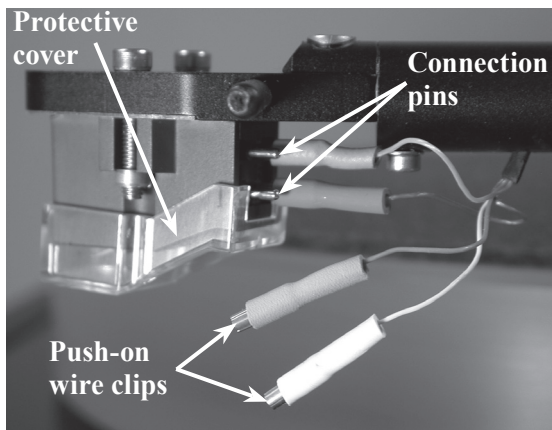

Figure 23
1. Uninstall the factory installed Phono Cartridge from the MT5 Tone Arm. First, place the Stylus Guard on the Cartridge. Carefully disconnecting the four push-on wire clips from the phono cartridge rear connection pins, using an appropriate tool. Then remove the mounting screws and nuts using the supplied allen wrench. Place the removed cartridge, spacer plate, screws and nuts in a safe place for possible future use. Refer to figures 23 and 24.
3. Using an appropriate tool, attach the four color coded wire lead connections coming from the front underside of the Tone Arm onto the rear of the new Phono Cartridge, following the instructions supplied with the Cartridge. Refer to figure 23. Below is the Tone Arm Headshell wire color lead identification: